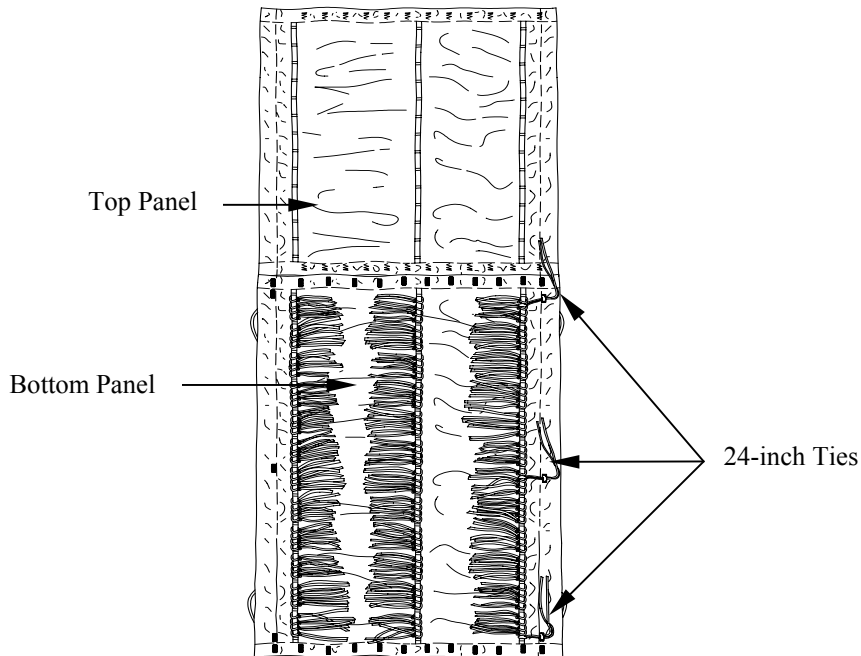

Figure 4. Installing 24-inch Ties at Stow Loops 1, 6 and 12
- c. Cut three 24-inch lengths of type I, $\frac{1}{4}$ -inch cotton webbing. Girth hitch one length to stow loop 1, 6, and 12 on the right side of the bottom panel. Make an overhand knot 3 inches from the bottom of the stow loop (figure 4).